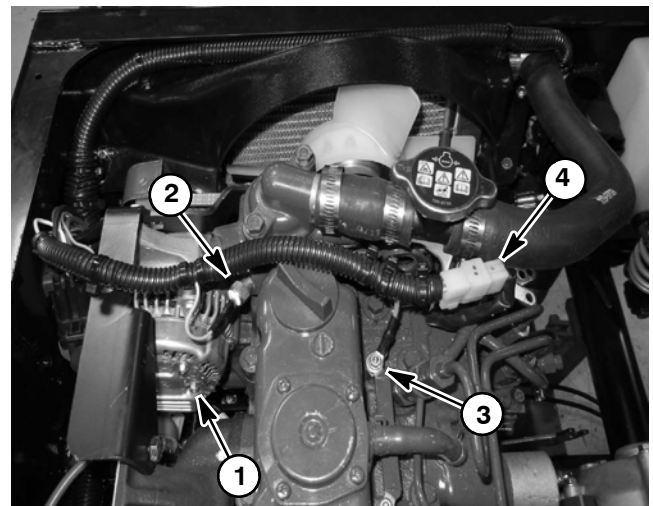

Figure 14
A. Disconnect main wire harness connections to glow plug bus, temperature sender and engine run solenoid (Fig. 14).
12. Remove four (4) flange nuts, spacers, snubbing washers and cap screws that secure the engine to the engine mounts.
3. Secure engine to engine mounts with four (4) cap screws, snubbing washers, spacers and flange nuts.
- A. Connect main wire harness connections to glow plug bus, temperature sender and engine run solenoid (Fig. 14).